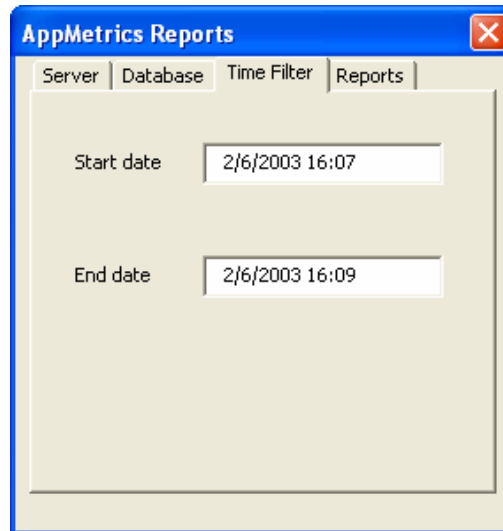

Figure 3
4. Click on the **Time Filter** tab to select the time period of the data to be viewed. This tab provides dates and times that are available (i.e. data was generated and uploaded to the database) for the monitor chosen in the Dataset tab (see Figure 3).